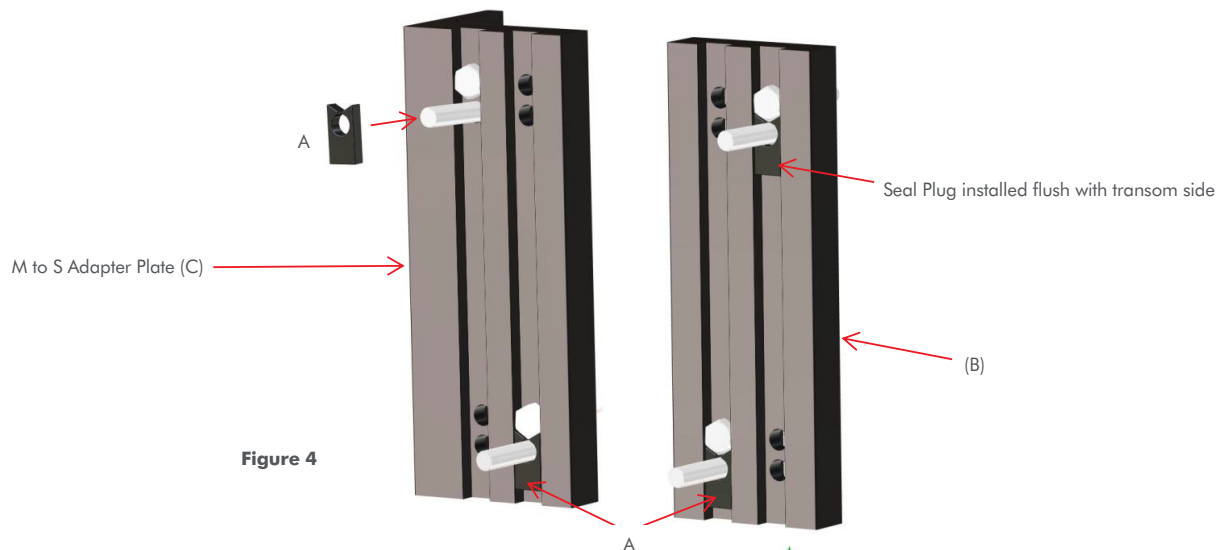

Figure 4
STEP 4: Install the M to S seal plugs **(A)** onto each transom bolt being used with the M to S Adapter Plate **(C)** and shim **(B)** as illustrated **(FIG. 4)**.